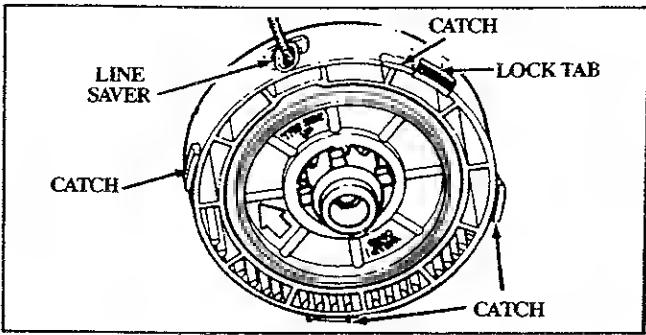

Figure 18
- e. Make sure the line saver is in place and installed correctly, then insert the end of the line in the line saver as shown in Figure 18. Place spool in housing. Press spool down. Turn and lock spool under lugs on drive gear.
- f. Replace the tap button; press lock tab and install the lock ring. Turn the lock ring clockwise  and fasten under *all four* catches on the housing. Figures 18 & 19.